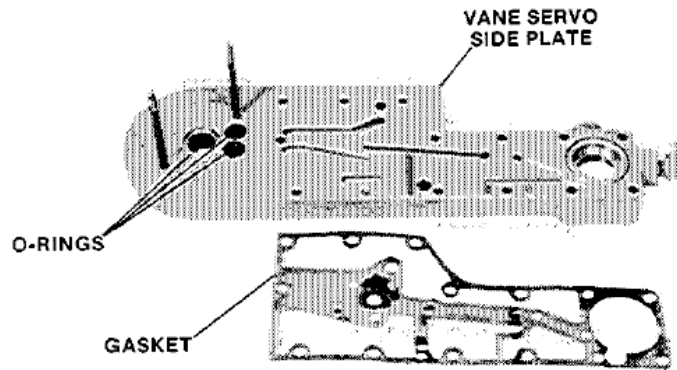

Figure 5-42. Side Plate
13. Install three O-rings, shown in side plate, Figure 5-42.